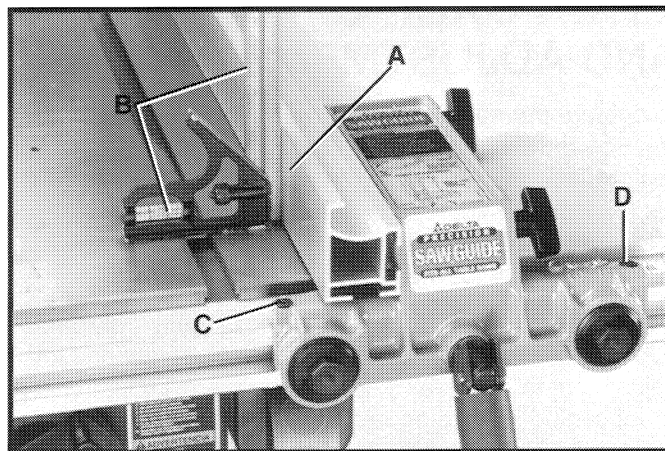

Fig. 76
The fence must be adjusted so that the face of fence (A) Fig. 76, is 90 degrees to the table. To check if the fence is 90 degrees to the table, place a square (B) on the table with one end of the square against the fence, as shown. If an adjustment is necessary, tighten or loosen one of two screws (C) or (D), until the fence is 90 degrees to the table. **IMPORTANT: VERY LITTLE MOVEMENT OF THESE SCREWS (C) AND (D) IS NECESSARY TO MAKE THIS ADJUSTMENT.**